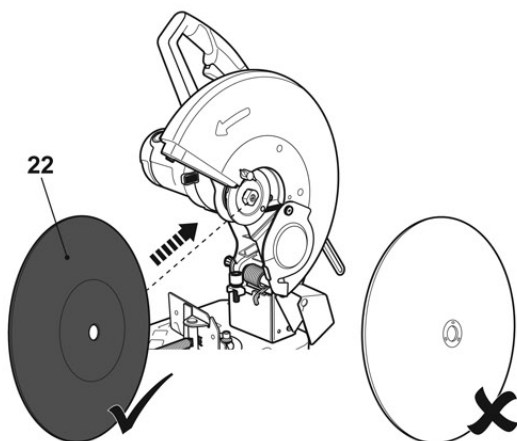

Fig. 13
- > Release the spindle lock button (7) and open the lower guard (6) fully. Hold it in position.
- > Remove the cutting-off wheel (22) and replace it with a new one (Fig. 13). Carefully release the lower guard (6) afterwards.
NOTE: Install the cutting-off wheel with the metal inner ring facing towards the spindle and not outwards (Fig. 13).